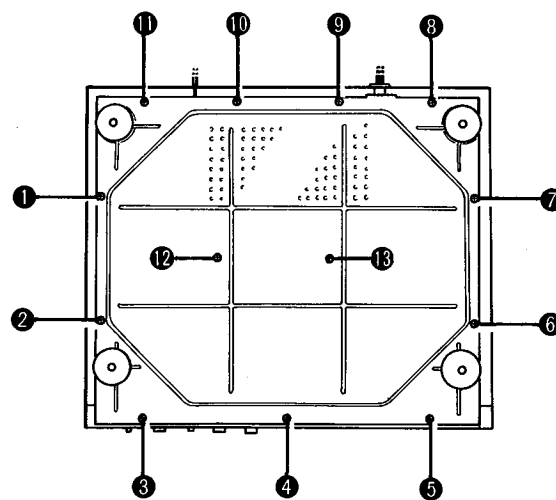

Fig. 1
1. Remove screws 1 to 13 in Fig. 1 and then remove the cabinet bottom.